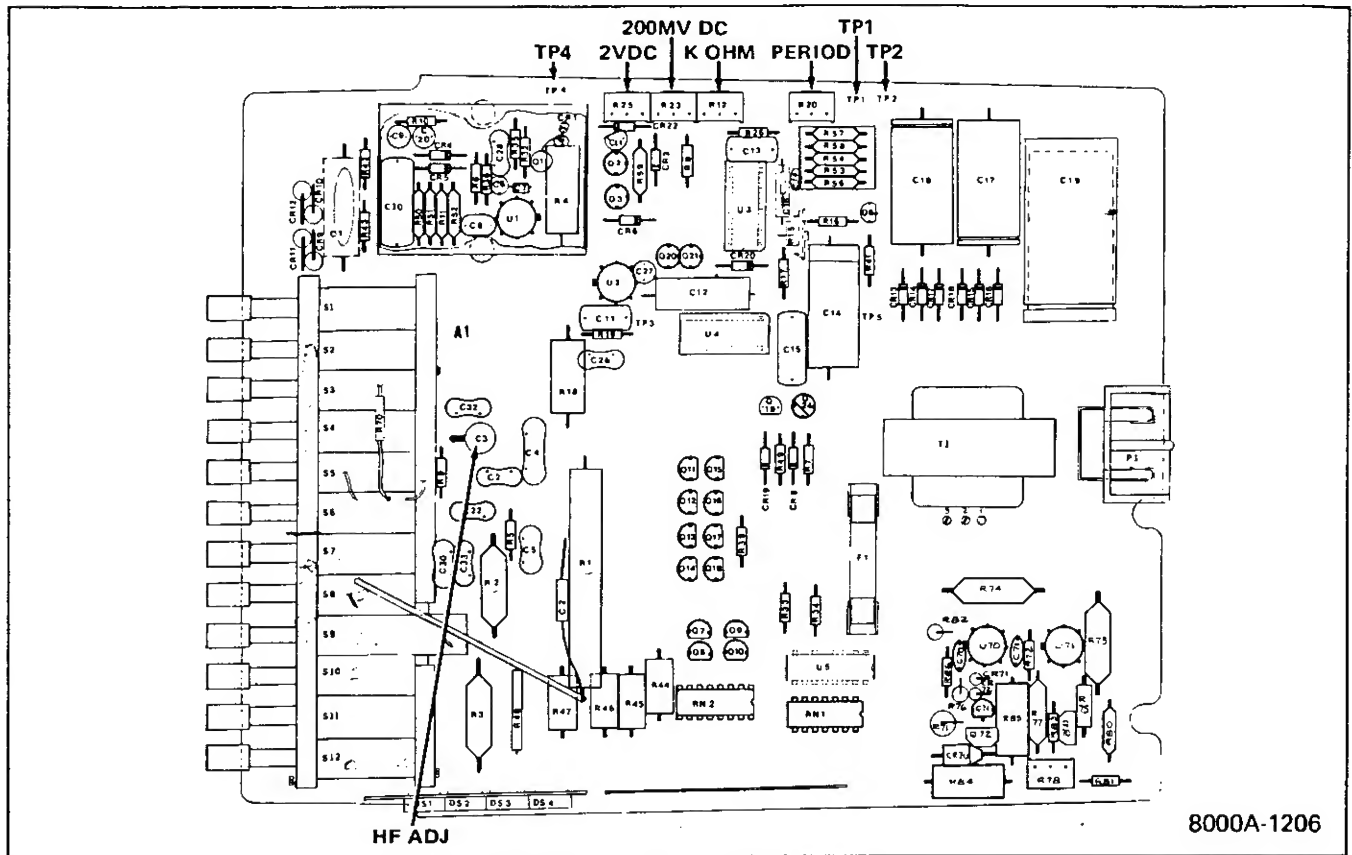

Figure 4-1. ADJUSTMENT AND TEST POINT LOCATIONS
- a. Connect the frequency counter between TP5 and TP4 (common) as shown in Figure 4-1.
- c. Using an appropriate adjusting tool, adjust R20 (PERIOD), shown in Figure 4-1 for a positive waveform portion of 100 ms \pm 5 μ s. Variations of the time period should be $\leq \pm 15 \mu$ s.
- c. Adjust R23 (see Figure 4-1) for a readout of +190.0.
4-32. The 8000A range adjustments are accomplished in accordance with the instructions given in Table 4-3. Perform each adjustment and/or check in the order listed. The shaded areas of the table separate the adjustments from the checks. Refer to Figure 4-1 for the location of the specified adjustment. The following test equipment from Table 4-1 is used to provide the input specified for each function.